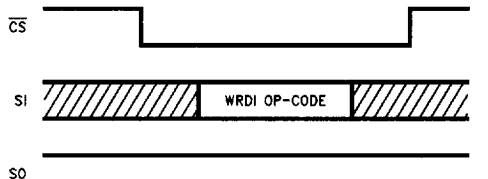

FIGURE 9
**WRITE DISABLE (WRDI):** To protect against accidental data disturbance the WRITE DISABLE (WRDI) instruction disables all programming modes. The WRITE DISABLE instruction is independent of the status of the WP pin. See Figure 9.